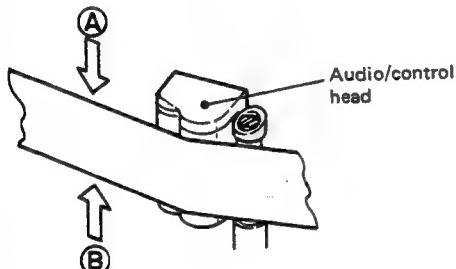

Fig. 2-53 Audio head height check
- Check that the audio output level increase does not exceed 0.5 dB as the tape is lightly pressed down point (A) as shown in Fig. 2-53.
- In the same manner, check that the audio CH-2 level increase does not exceed 0.5 dB as the tape is lightly pushed up at point (B).